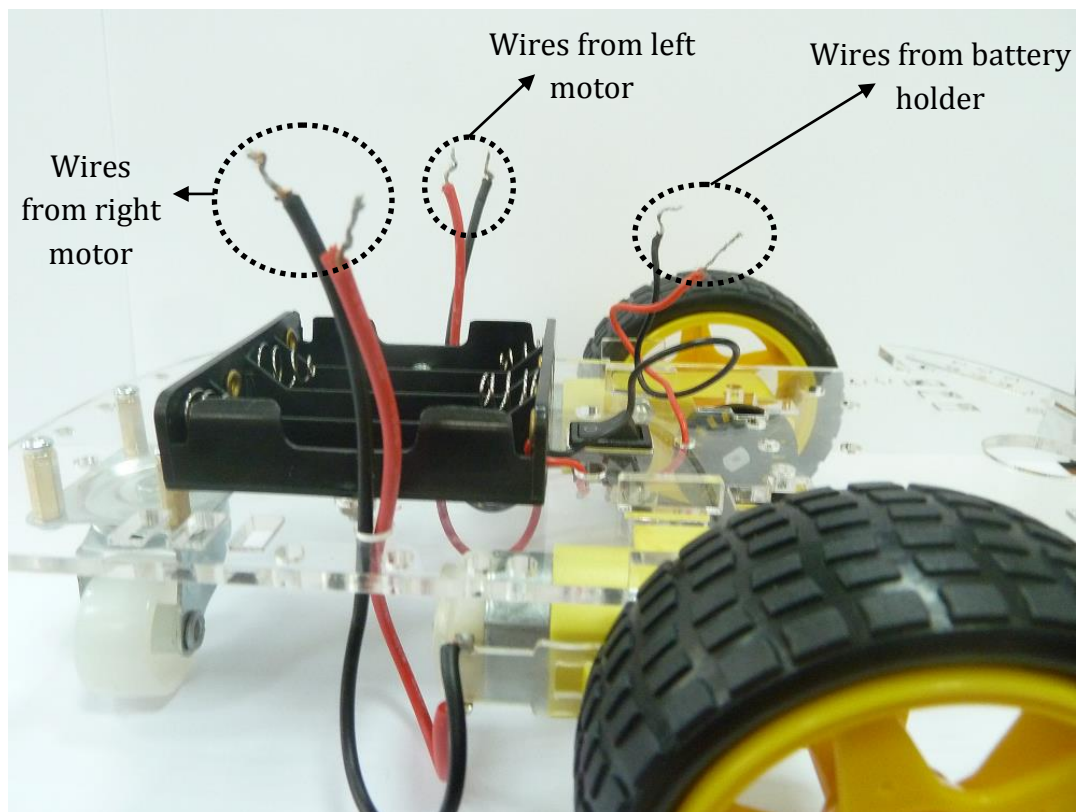
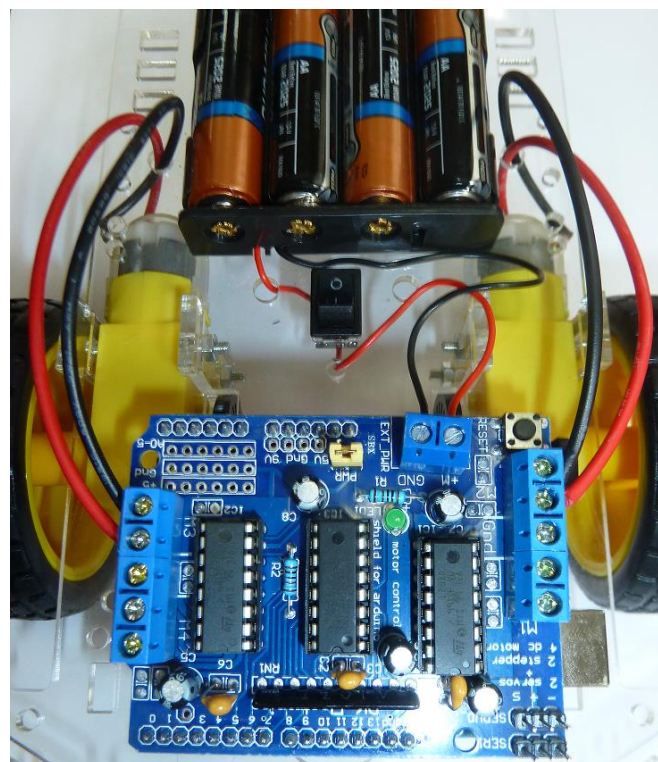
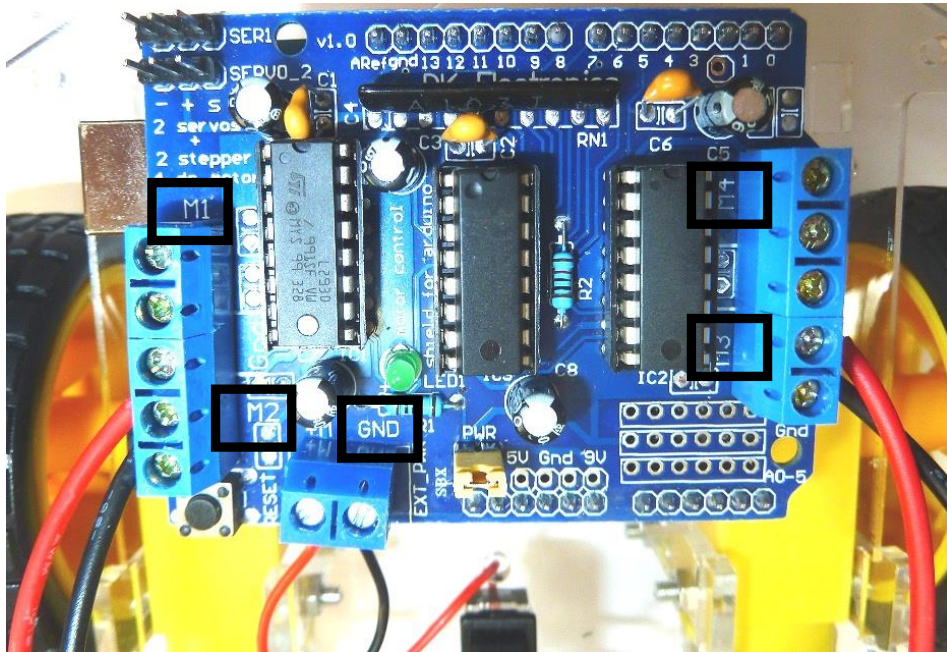

Figure 14
Figure 18: Electronic circuit (microcontroller + motor shield) attached to the vehicle's chassis.
Figure19: Motors' wires attached to M2, M3 shield's terminals and battery holder's wires attached to GND terminal.
- Attach the motors' wires and the battery holder's wires to the terminal blocks of the motor shield (see Figs. 18, 19). The motor shield has terminals for four motors (M1, M2, M3, M4, see Fig. 19). It also has a terminal block called GND (ground, see Fig. 19). Attach the right motor's wires to terminal M3 as shown in Fig 14. Attach the left motor's wires to terminal M2 as shown in Fig. 19. Attach the battery holder's wires to the +M and GND terminal as shown in Fig. 19.